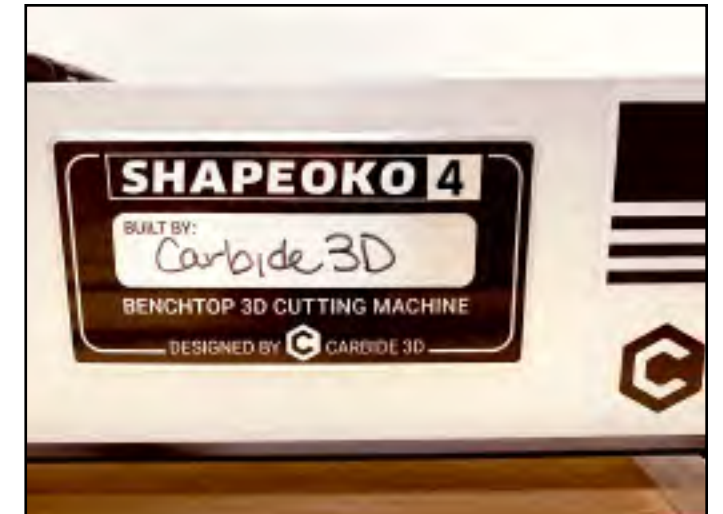

Figure 9-11
5. Sign and display your Shapeoko 4 build plate. See **Fig. 9-11**.